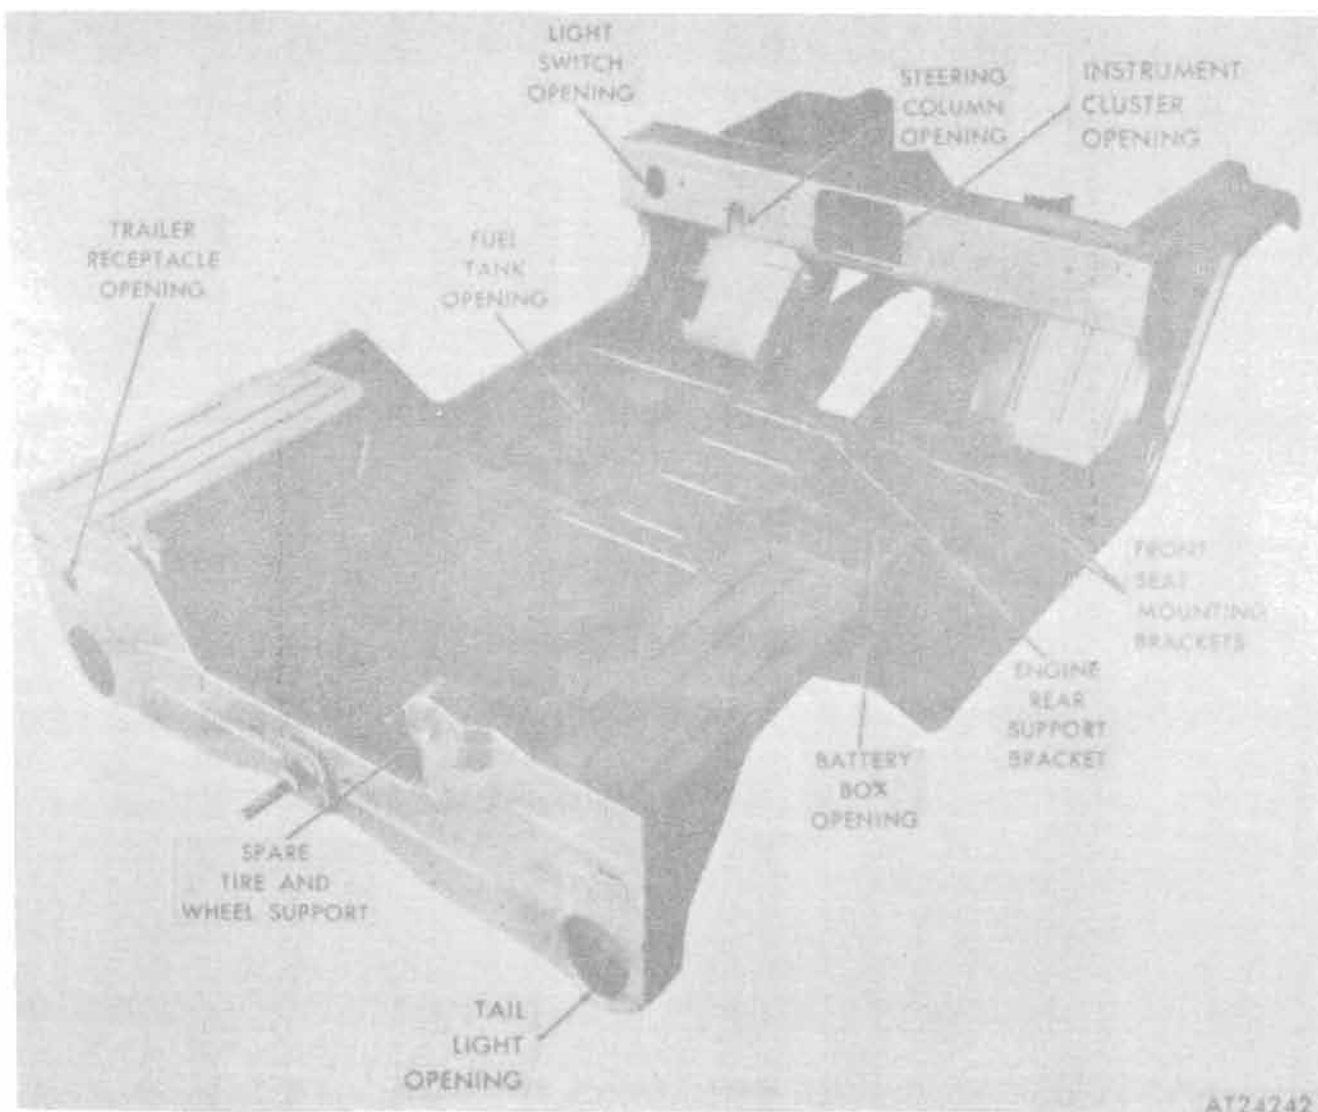

Figure 17-2. Body and frame— $\frac{3}{4}$ right rear view.
c. Upper Structure (Figs. 17-2 and 17-3). Check all seat brackets and attaching parts for security of attachment and damaged parts. Inspect all welds and joints for cracks. Inspect panels for cracks.